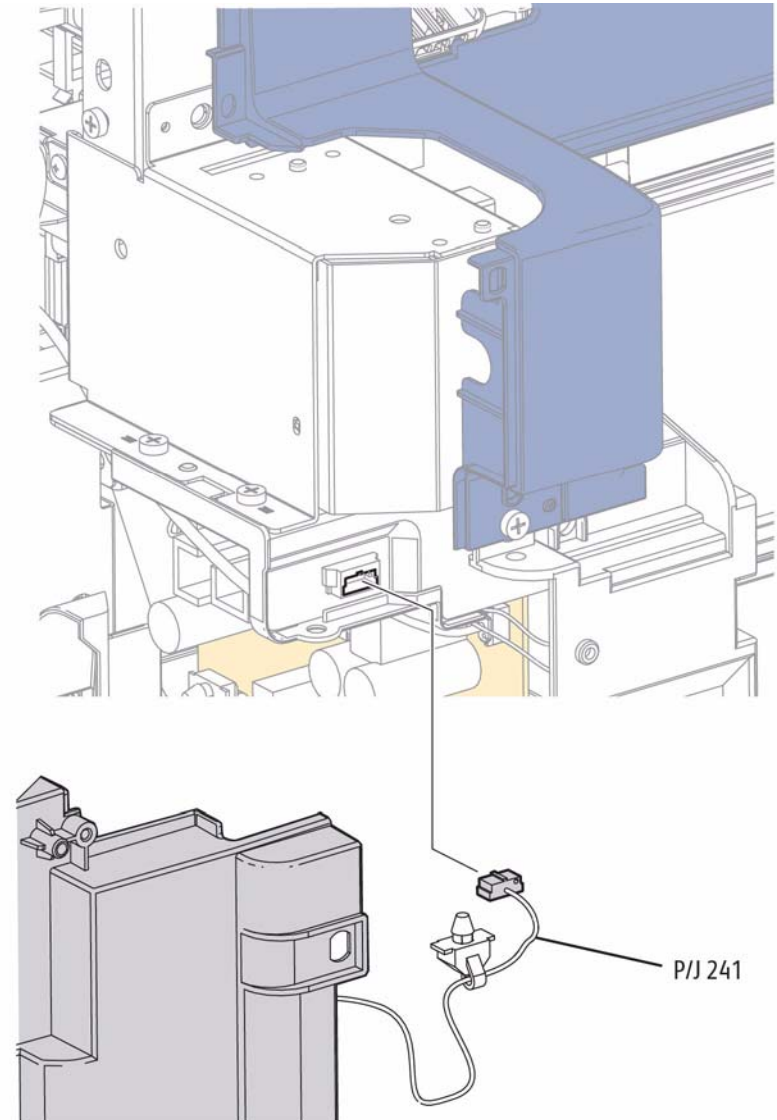

Figure 2 Disconnect the LVPS Fan
6. Refer to Figure 2 to locate and release the cable tie from the chassis and disconnect the LVPS Fan before removing the cover.